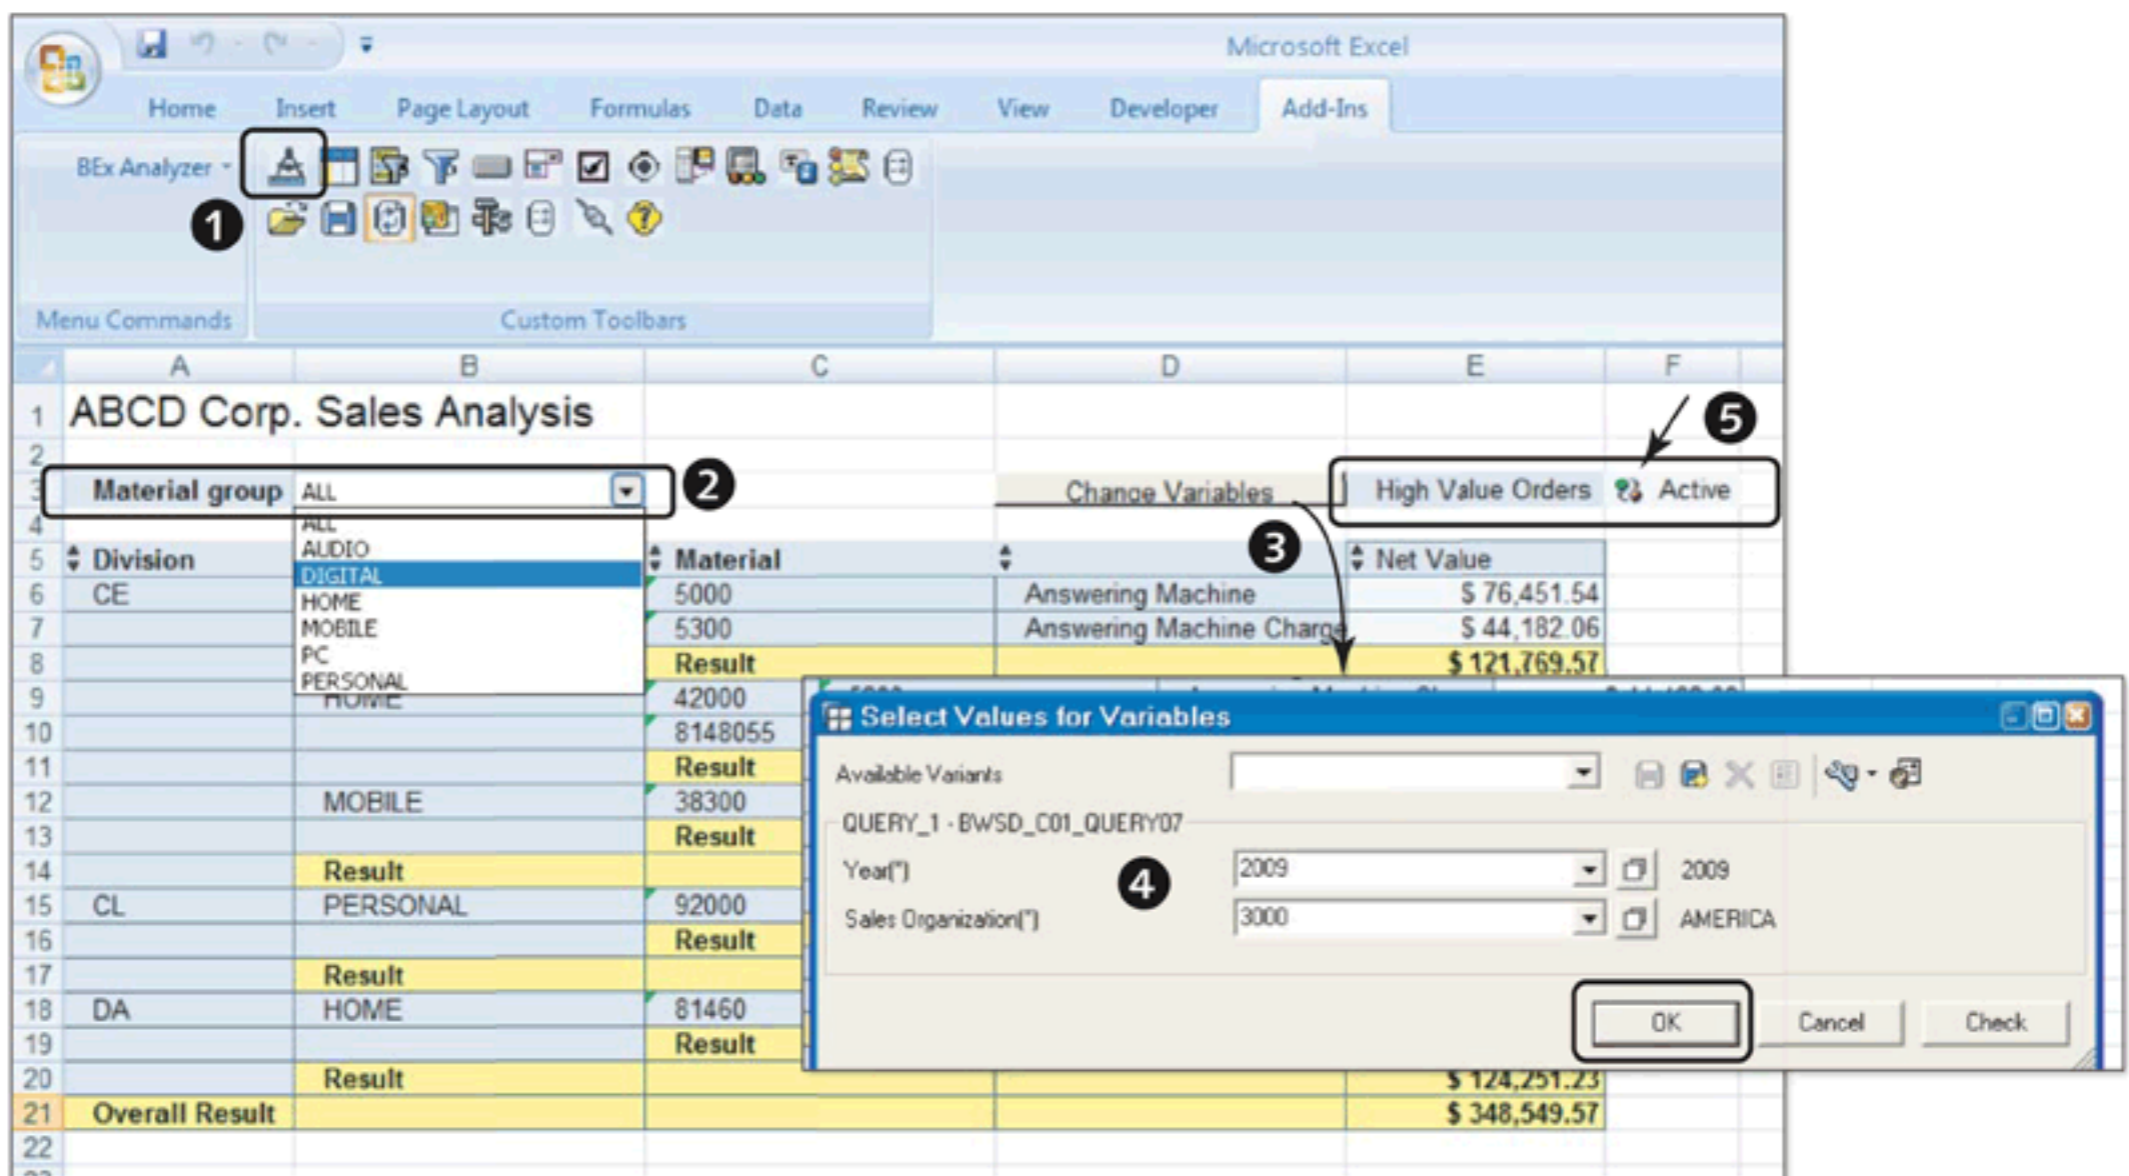

Figure 10.37 Working with Custom Analysis Application
The custom analysis application is now ready for use. To begin the analysis, click on the button shown in ❶ of Figure 10.37. This exits the design model and switches to the analysis mode. After you switch to the analysis mode, the workbook is refreshed with data, as shown in Figure 10.37.
You can see from ❷ of Figure 10.37 that there is a dropdown box option available for the material group characteristic, as well as a CHANGE VARIABLES button (❸). When clicked, this button calls the variable entry screen (❹). The user can change the values of the variables and then refresh the data in the workbook by clicking